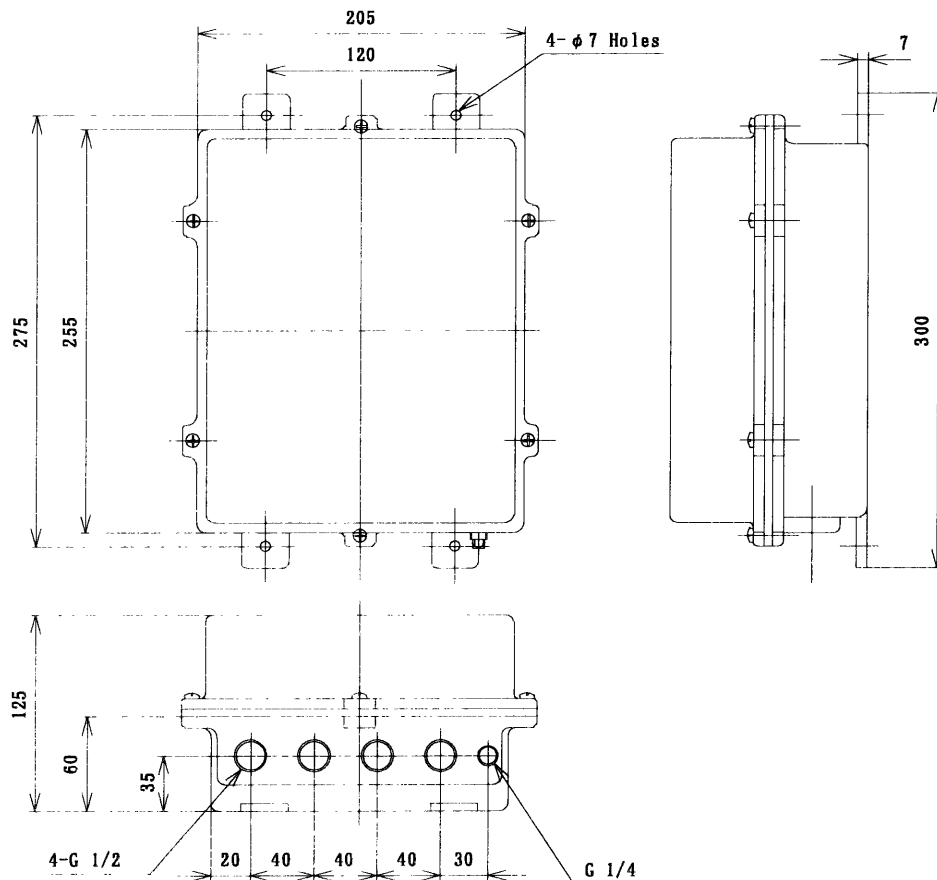

Fig.6-2
(1) The dimension of the converter is shown on Fig.6-2.
(2) Use M6 screws or equivalent when installing the converter chassis on the wall.